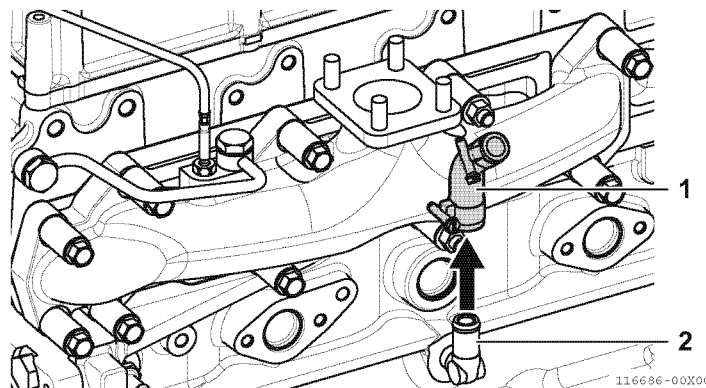

Fig.24-14
7. Remove the lubricating oil return hose (1, Fig.24-14) as necessary. In this case, use tape or other means to block the joint (2, Fig.24-14) from the cylinder block in order to prevent dust or other foreign matter from entering.